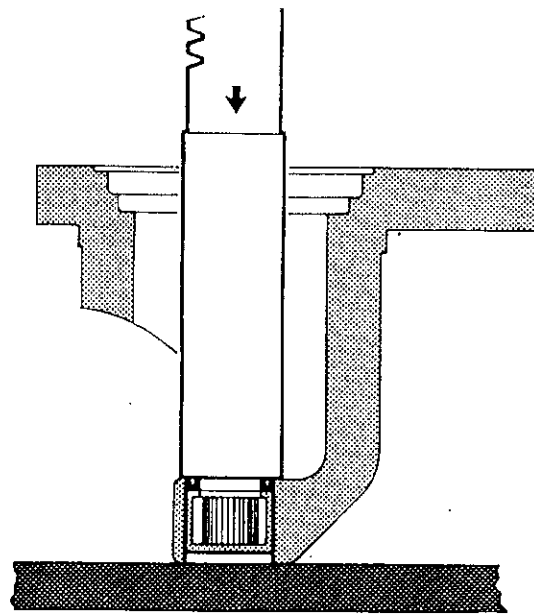

Figure 3.23
21. Press the shaft seal (35) in until it seats against the drive housing bearing, as shown in Figure 3.23. Do not reposition the drive housing bearing during seal installation.